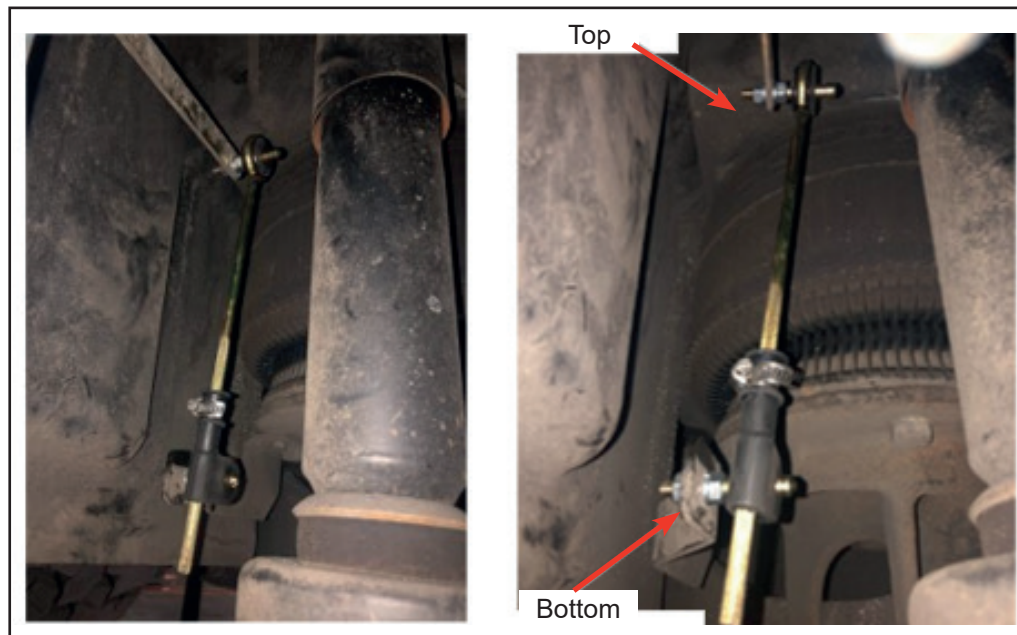

Figure 24 - Adjusting the Leveling valve
- 1.49. Slide the adjustment rods (See Figure 24).